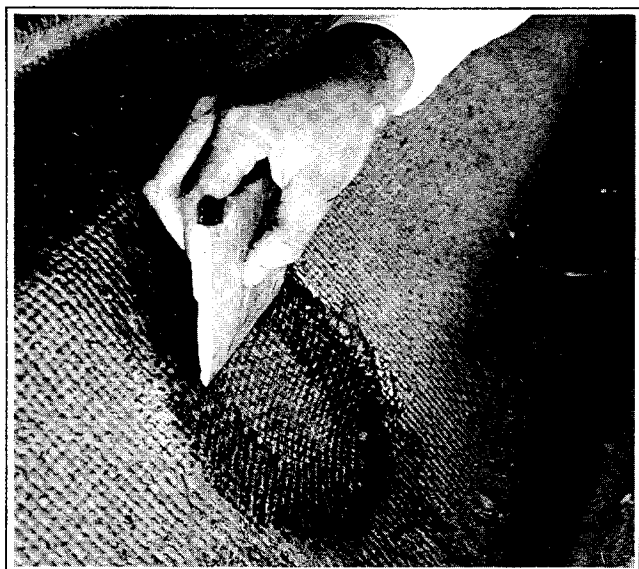

Figure 2-44. Squeegeeing Patch
7. Lay patch over hole, cover with cellophane and squeegee out air bubbles. Allow one to two hours to cure, then remove cellophane. See Figure 2-44.